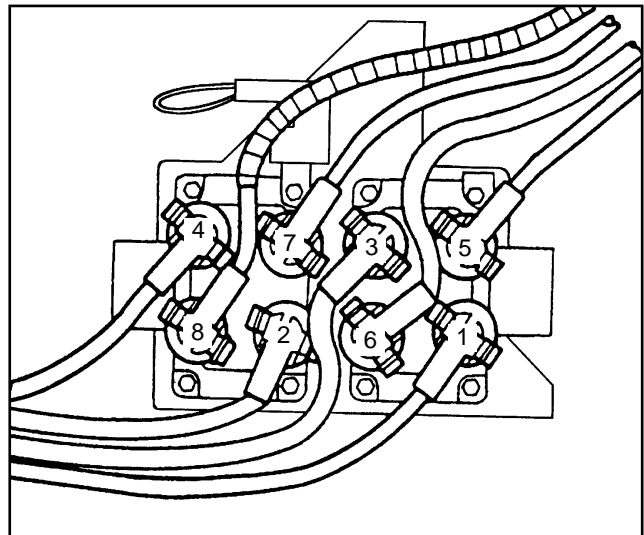

FIG. 12. - Ignition Coil Packs - Eight Cylinder
**IGNITION COIL PACKS (Fig. 12.)****Removal**